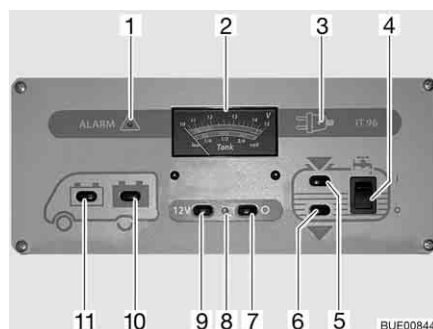

Fig. 133 Panel IT 96-2
The 12 V main switch (Fig. 133,7 and 9) switches the panel and the 12 V power supply to the living area on and off.
- Press switch (Fig. 133,9) "12 V": The 12 V living area power supply is switched on. The indicator lamp (Fig. 133,8) lights up green.
- Press switch (Fig. 133,7) "O": The 12 V living area power supply is switched off. The indicator lamp (Fig. 133,8) goes out.
With the V/tank gauge (Fig. 133,2), note the top scale. The gauge automatically lights up as soon as a switch is pressed.
- Press switch (Fig. 133,11) "☰": The battery voltage of the starter battery is displayed.
- Press switch (Fig. 133,10) "☷": The battery voltage of the living area battery is displayed.
The V/tank gauge is for the indication of the quantity of water or waste water. With the V/tank gauge (Fig. 133,2), use the bottom scale. The gauge automatically lights up as soon as a switch is pressed.
- Press switch (Fig. 133,5) : The volume of water is displayed.
- Press switch (Fig. 133,6) : The volume of waste water is displayed.
Switching on: ■ Press the upper part of the rocker switch (Fig. 133,4) "I": The water supply is ON.
Switching off: ■ Press the lower part of the rocker switch (Fig. 133,4) "O": The water supply is OFF.
The red "ALARM" warning light (Fig. 133,1) flashes as soon as the voltage of the living area battery falls below 11 V (measured under operation) and there is a risk of a total discharge.
The 12 V indicator lamp (Fig. 133,8) illuminates whenever the 12 V main switch (Fig. 133,9) is switched on.
The yellow 230 V indicator lamp (Fig. 133,3) illuminates whenever line voltage is available at the transformer/rectifier input.